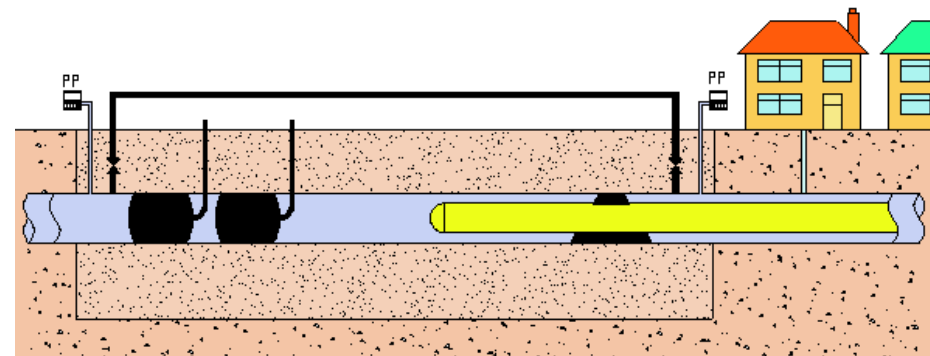

Figure 21- Exit Excavation
5. Install a bypass in preparation of the new connection position as shown in Figure 21, allowing for any foam travel as determined by the manufacturer's instructions.
Note: You will need to cut out sufficient of the host pipe to fit a two bypasses, two squeeze offs and room for connecting couplings see Figure 21.